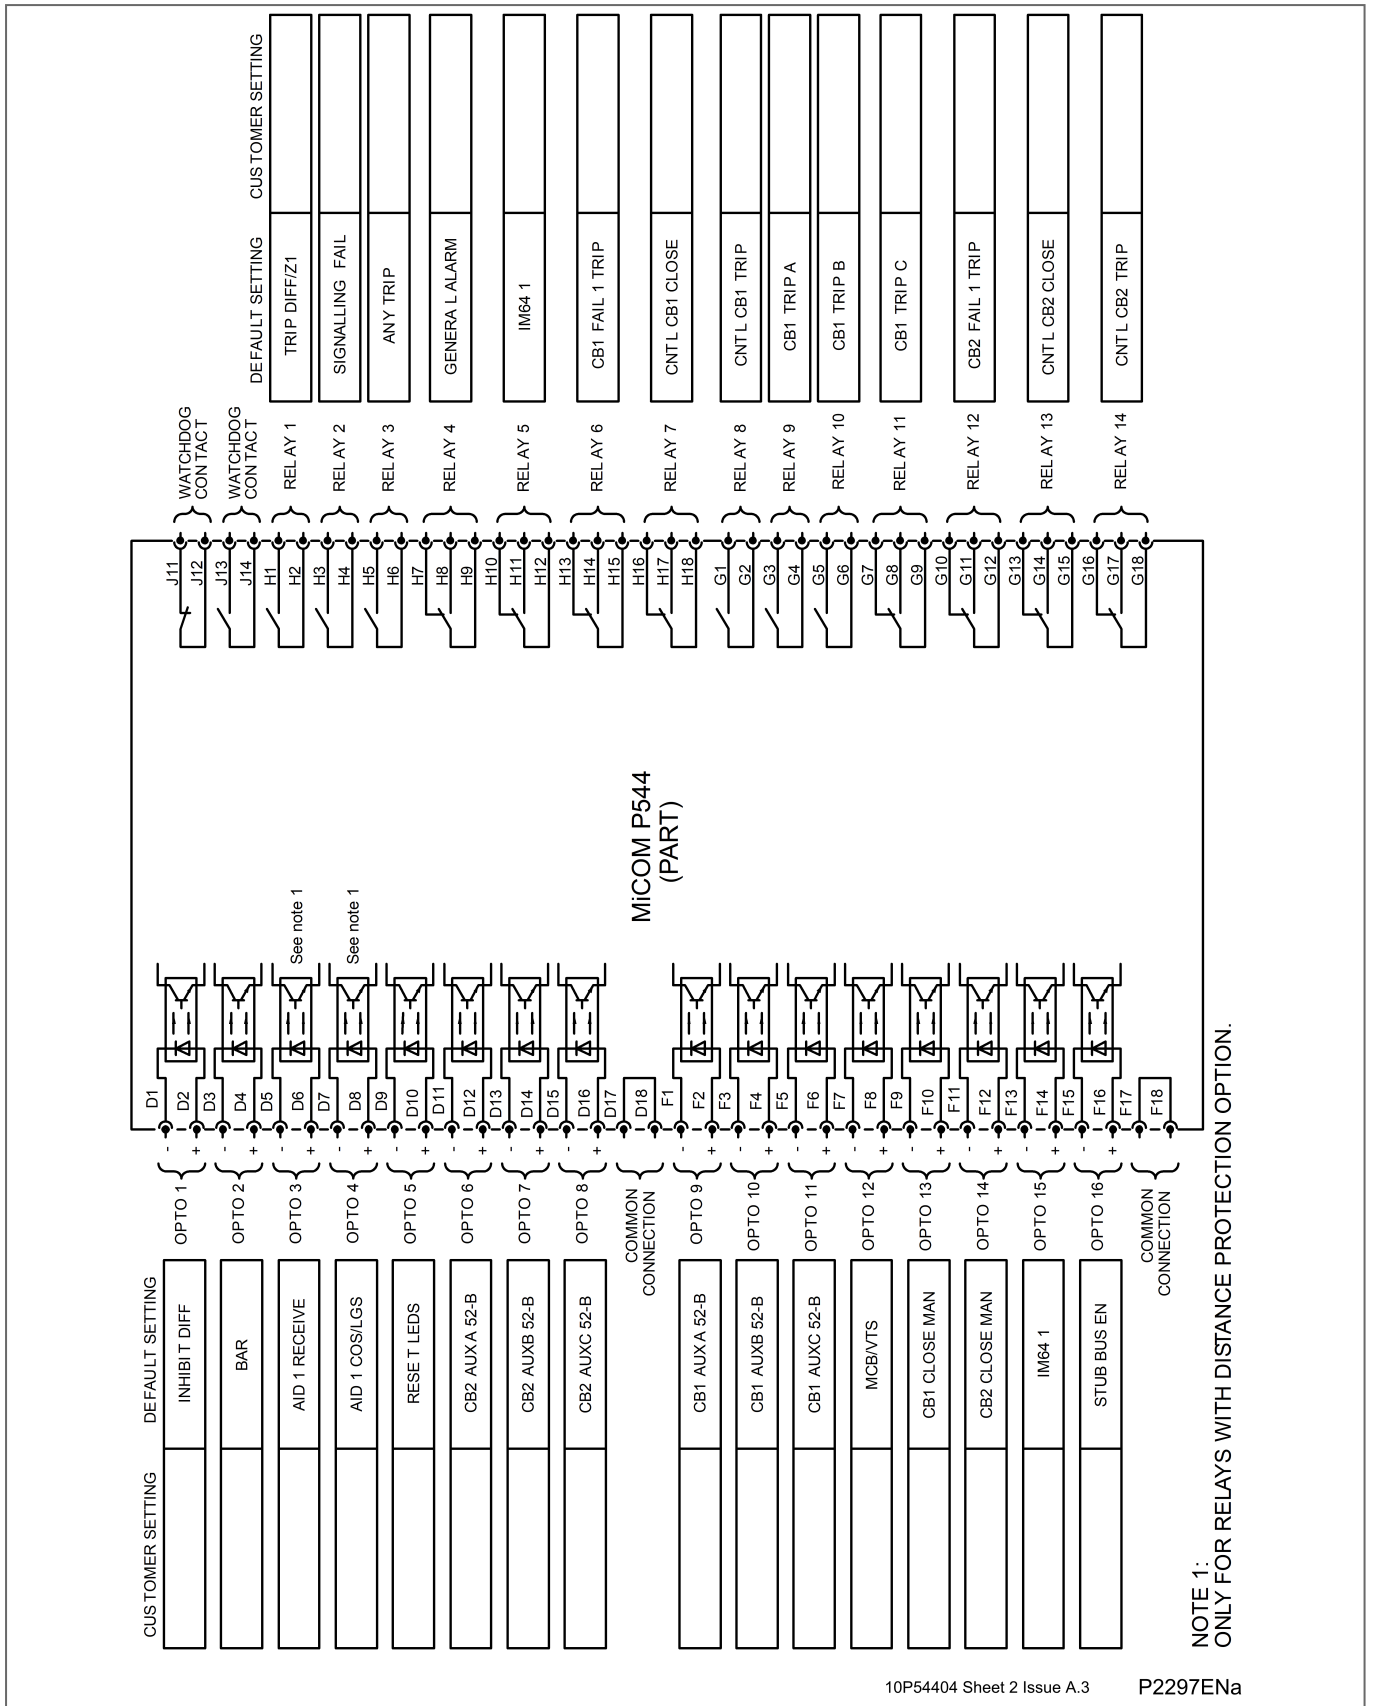

Figure 11 - P544 - 16 inputs/outputs default mapping - 14 standard outputs
- Figure 11 - P544 - 16 inputs/outputs default mapping - 14 standard outputs